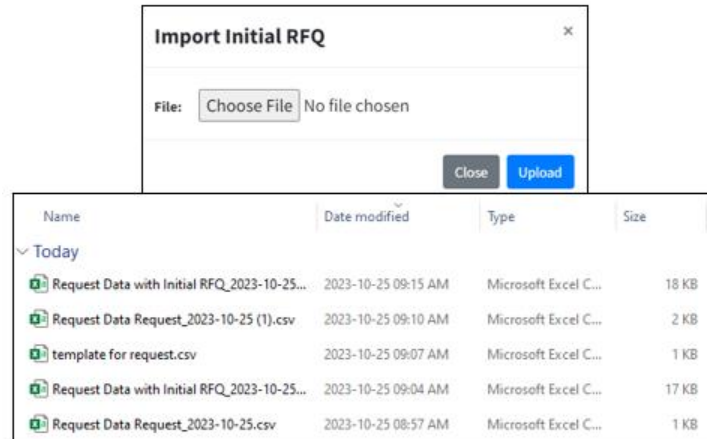

Figure 17. Sample File Import
5.4 After selecting which file will be imported – whether initial RFQ or RFQ or PO, choose the file that needs to be imported. (See Figure 17)